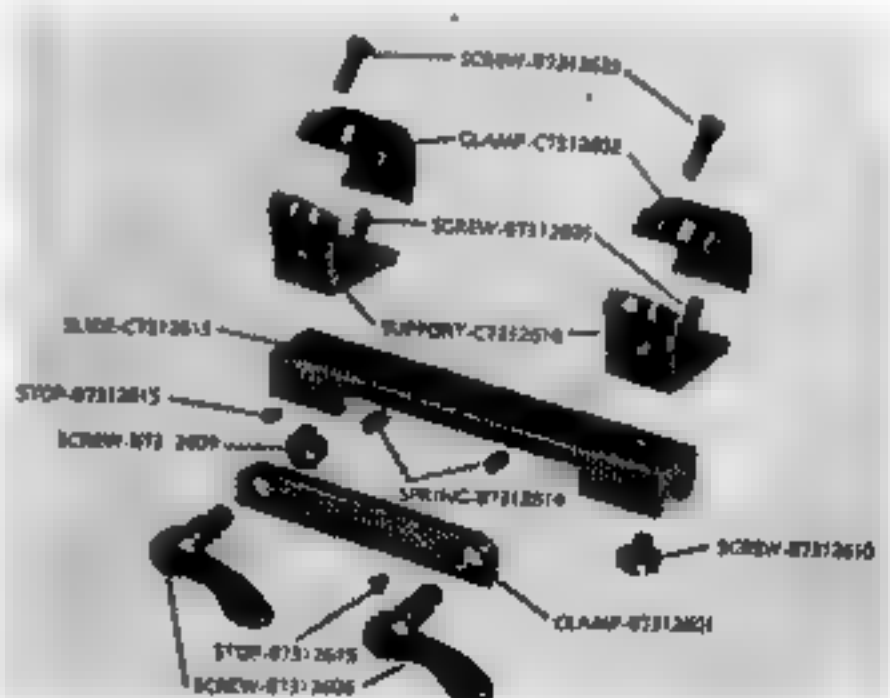

Fig. 129. Scope mount assembly, M1C
54. Telescope mount, M1C only (Fig. 129, 130) inspect the scope mount bracket for retention on the receiver and for burrs on male dovetail slides. Inspect slide for function in scope mount bracket, and locking action of slide clamp with locking screws. Check supports for looseness in slide. Inspect screws and screw holes for worn or stripped threads and all recesses for foreign matter.